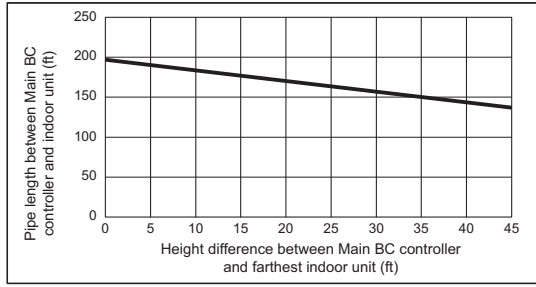

Fig. 2
- *2. Details refer to Fig. 2.
- *7. When the piping length or the vertical separation exceeds the limit specified in Fig. 2, connect a sub BC to the system.
When using indoor models P54 or larger, the restrictions shown in Fig. 2 cannot be exceeded.
*7. When the piping length or the vertical separation exceeds the limit specified in Fig. 2, connect a sub BC to the system.
The restriction for a system with a sub BC connection is shown in Fig. 3. When a given system configuration falls within the shaded area in Fig. 3, increase the size of the high-pressure pipe and the liquid pipe between the main BC and sub BC by one size. The maximum liquid branch pipe diameter is $\phi 19.05$. If a given system already has a $\phi 19.05$ -pipe between the main BC and sub BC, there is no need to increase the pipe size. When using P12, P15, P18, P36, or P48 model of indoor units, increase the size of the liquid branch pipe between the sub BC and indoor unit by one size. When using indoor models P54 or larger, the restrictions shown in Fig. 2 cannot be exceeded.